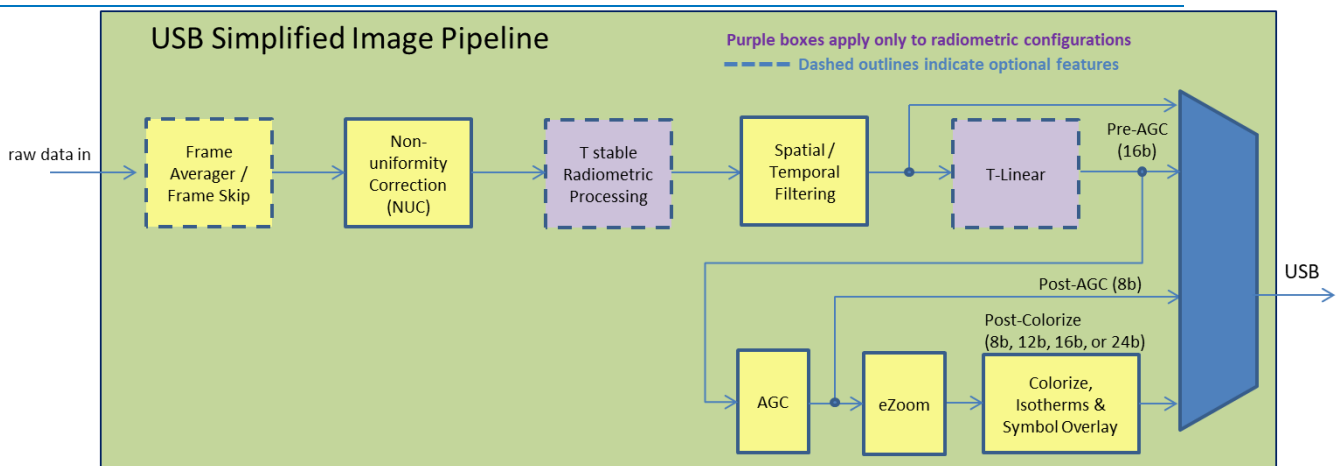

FIGURE 56: BOSON+ SIGNAL PIPELINE – USB OUTPUT ENABLED
As described in Section 5 and shown in Figure 56, there are multiple locations in the signal pipeline where video can be tapped for output on the CMOS channel. Boson+ provides the following CMOS video-tap modes:
- **Radiometry Enabled Pre-AGC (16-bit) (factory default with Radiometry enabled):** On Radiometry enabled cameras, the T-stable or T-linear tap point is available. See Figure 56, as well as Section 7.7.